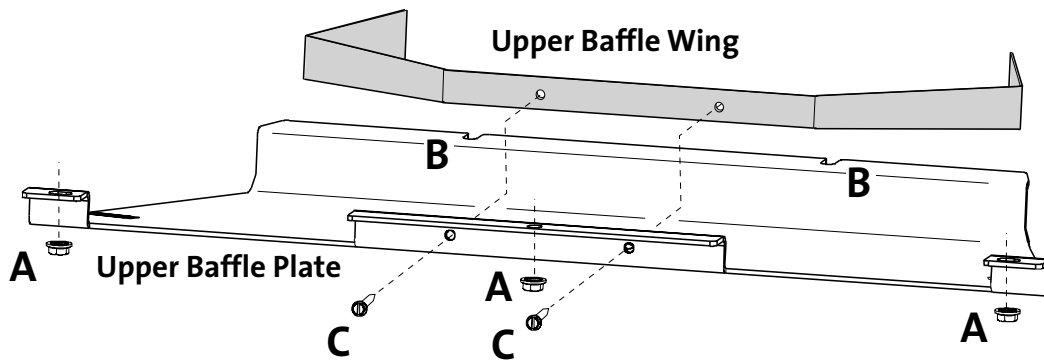

Figure 7.8. Baffle Conversion - Propane Only.
7. **LP CONVERSION ONLY: Remove the Upper Baffle Wing from the firebox.** See fig. 7.8 below and also fig. 10. 3.
- Remove three 10 mm hex nuts (A) from the front of the Upper Baffle plate.
- Loosen, but do not remove the two 10 mm hex nuts (B) from the rear of the Upper Baffle plate. These are not visible, but you will be able to locate them with your fingers. The baffle plate will drop down enough to enable you to remove the Inner Wing panel from the firebox.
- Remove the two sheet metal screws (C) that secure the Inner Baffle Wing to the center of the Upper Baffle.